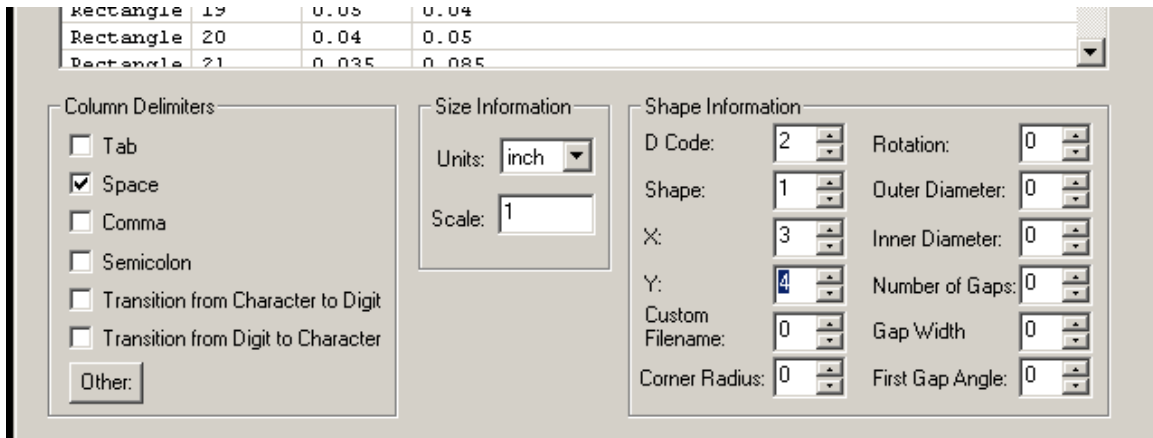

Figure 12: Tool Table Assistant
9. Enter the values (as shown in Figure 12) to correctly assign different fields to their correct value. The delimiter in this case is whitespace (i.e. whitespace separates different fields) and the field number for each value can be easily seen. Take care to ensure that units are correctly set to inches.